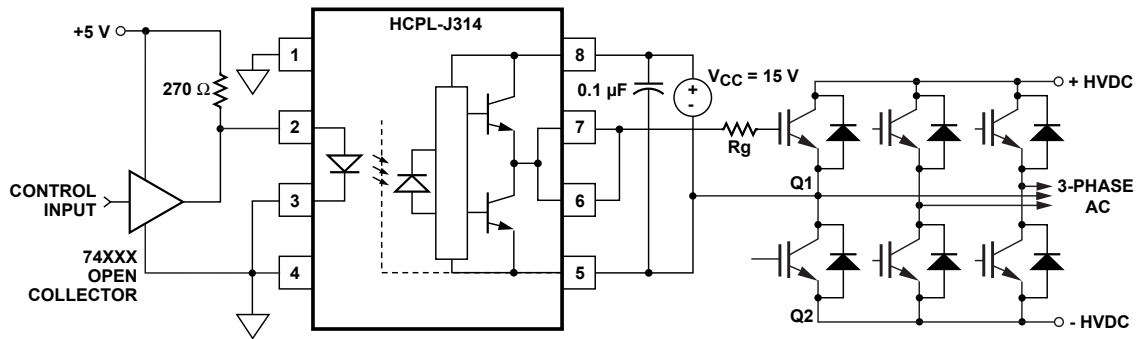
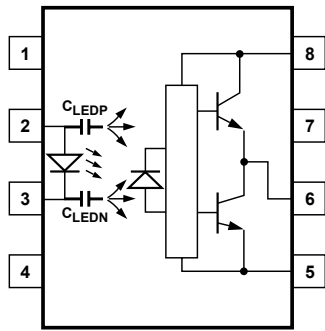
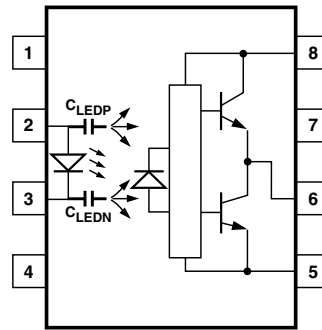
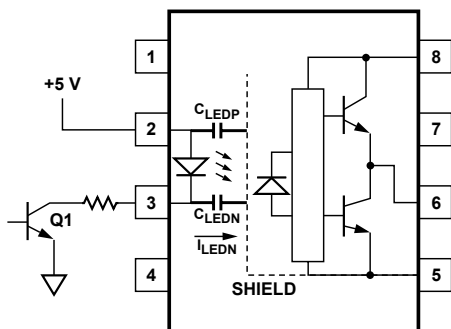

Figure 19. Recommended LED drive and application circuit for HCPL-J314.
Figure 21. Optocoupler input to output capacitance model for unshielded optocouplers.
Figure 22. Optocoupler input to output capacitance model for shielded optocouplers.
Figure 24. Not recommended open collector drive circuit.
To keep the IGBT firmly off, the HCPL-J314 has a very low maximum V_{OL} specification of 1.0 V. Minimizing R_g and the lead inductance from the HCPL-J314 to the IGBT gate and emitter (possibly by mounting the HCPL-J314 on a small PC board directly above the IGBT) can eliminate the need for negative IGBT gate drive in many applications as shown in Figure 19. Care should be taken with such a PC board design to avoid routing the IGBT collector or
Step 1: Calculate R_g minimum from the I_{OL} peak specification. The IGBT and R_g in Figure 19 can be analyzed as a simple RC circuit with a voltage supplied by the HCPL-J314.
where $K_{ICC} \cdot Q_g \cdot f$ is the increase in I_{CC} due to switching and K_{ICC} is a constant of 0.001 mA/(nC*kHz). For the circuit in Figure 19 with I_F (worst case) = 10 mA, R_g = 32 Ω, Max Duty Cycle = 80%, Q_g = 100 nC, f = 20 kHz and T_{AMAX} = 85°C:
Without a detector shield, the dominant cause of optocoupler CMR failure is capacitive coupling from the input side of the optocoupler, through the package, to the detector IC as shown in Figure 21. The HCPL-J314 improves CMR performance by using a detector IC with an optically transparent Faraday shield, which diverts the capacitively coupled current away from the sensitive IC circuitry. However, this shield does not eliminate the capacitive coupling between the LED and optocoupler pins 5-8 as shown in Figure 22. This capacitive coupling causes perturbations in the LED current during common mode transients and becomes the major source of CMR failures for a shielded optocoupler. The main design objective of a high CMR LED drive circuit becomes keeping the LED in the proper state (on or off) during common mode transients. For example, the recommended application circuit (Figure 19), can achieve 10 kV/μs CMR while minimizing component complexity.
The open collector drive circuit, shown in Figure 24, can not keep the LED off during a $+dV_{CM}/dt$ transient, since all the current flowing through C_{LEDN} must be supplied by the LED, and it is not recommended for applications requiring ultra high CMR1 performance. The alternative drive circuit which like the recommended application circuit (Figure 19), does achieve ultra high CMR performance by shunting the LED in the off state.